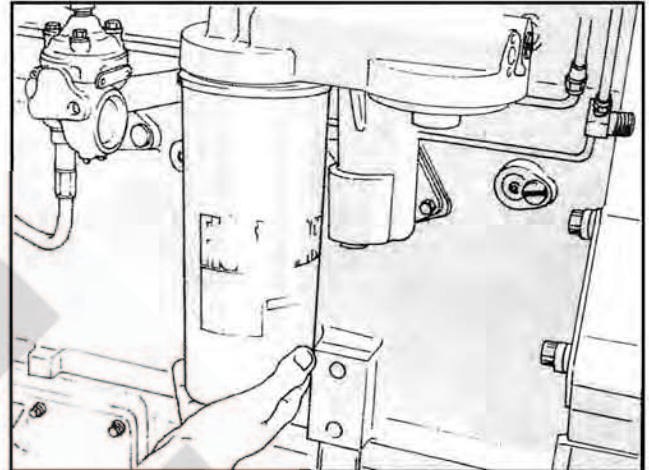

Fig. 2-13. Installing lubricating oil filter cartridge
1. Unscrew combination case and elements, Fig. 2-13, discard elements.